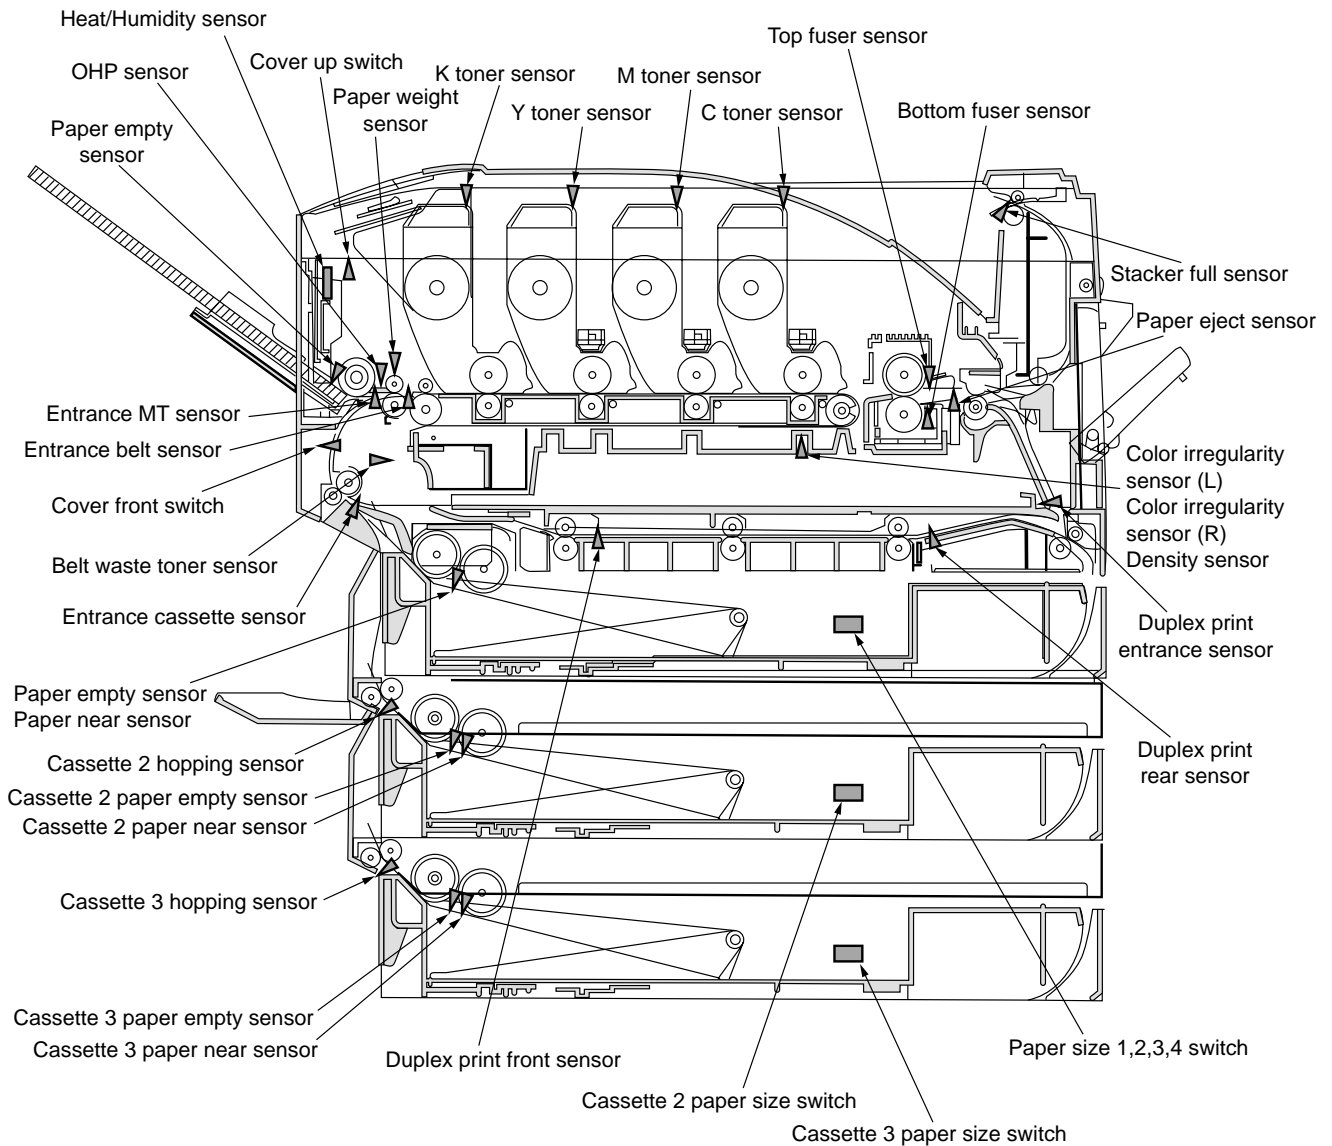

Figure 4-1 Switch Sensor Position
3. The test starts by pressing the ③ key. The SWITCH SCAN number begins to blink and the number of the corresponding unit (1-4) is displayed along with the current status. Manipulate each unit (Fig 4-1). The items are displayed in the LCD that corresponds to each item. (The display differs for each sensor. See Table 4-1 for details.)
4. The SWITCH SCAN number reappears in the display status (blinking ceased) by pressing the ⑦ key.
6. Press the ④ key to end the test. (Status returns to that described in 1.)